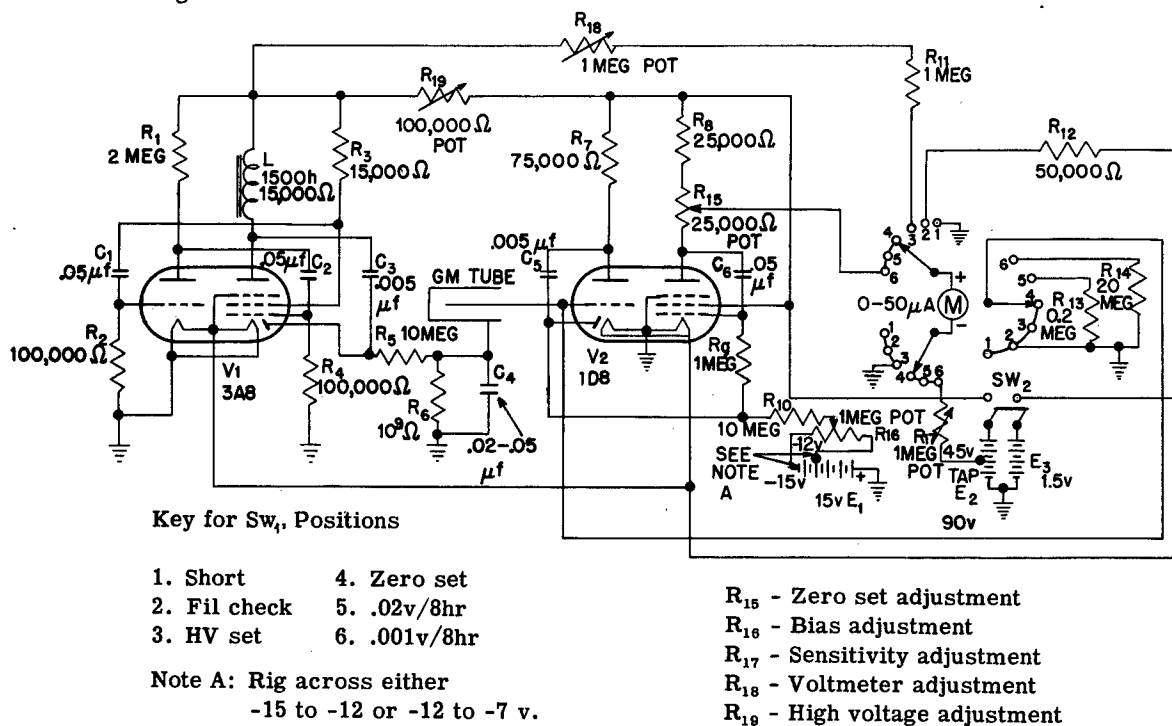
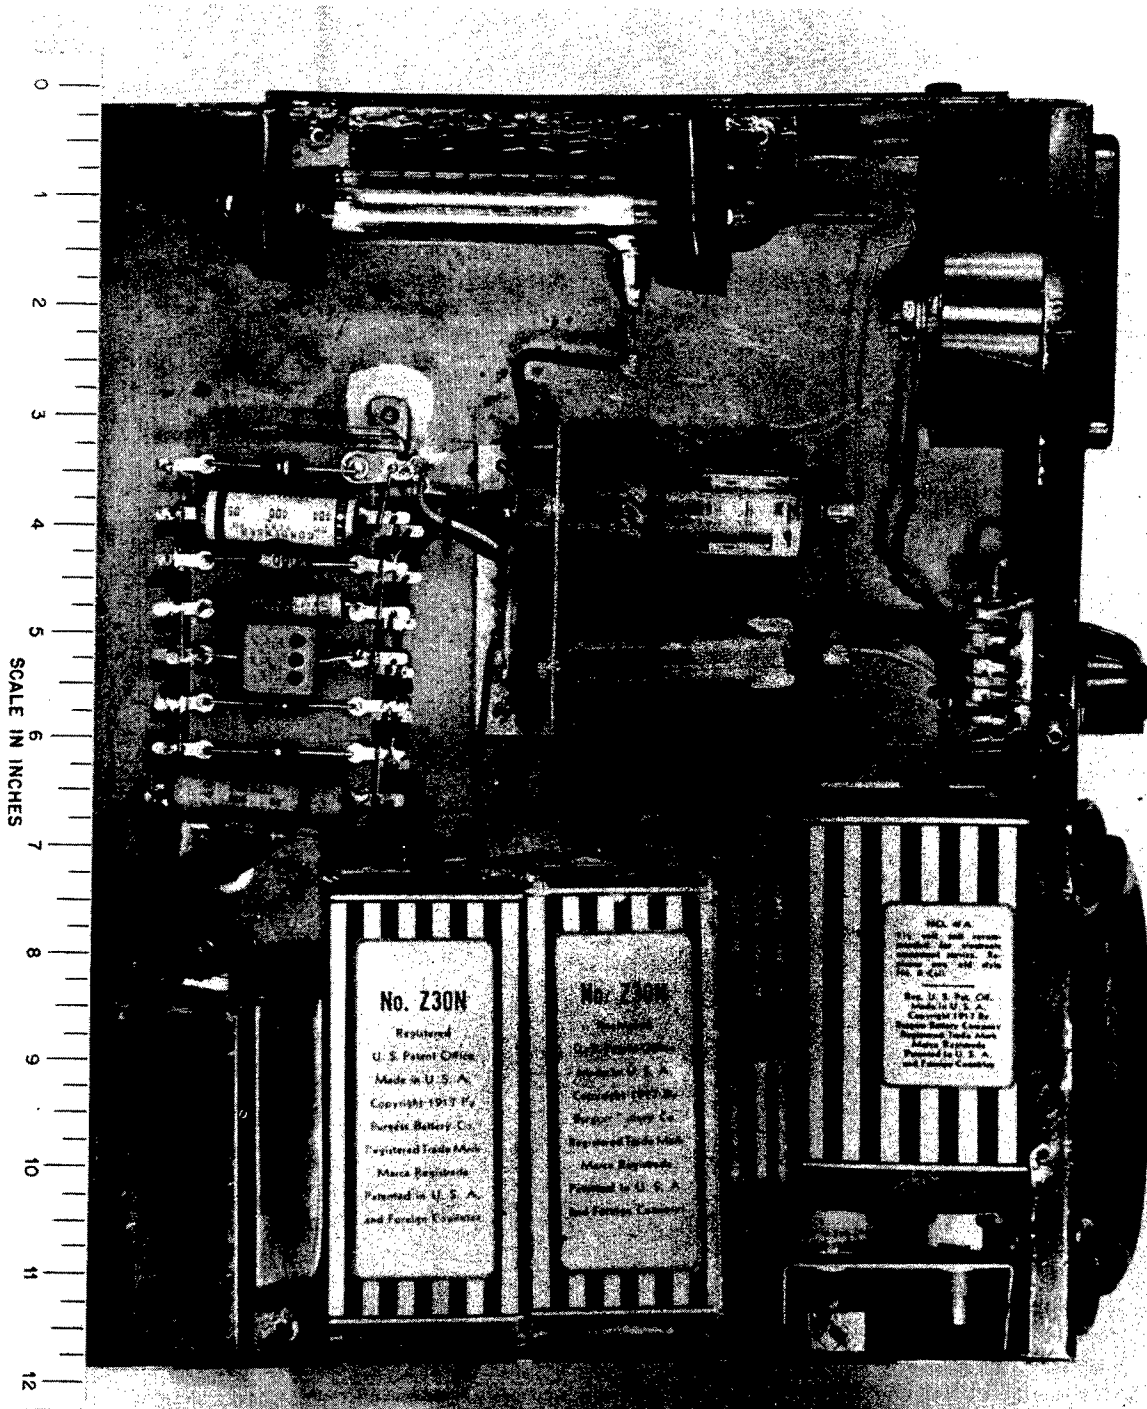
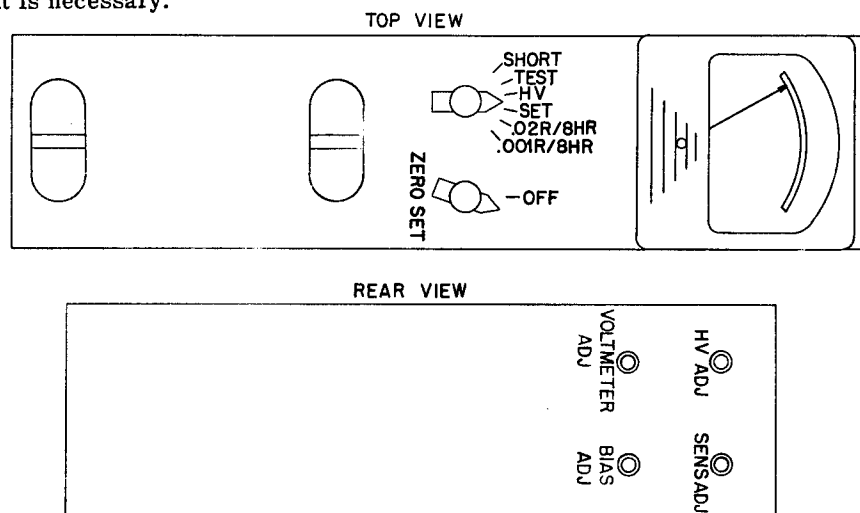

Figure 1. Schematic diagram of portable GM tube survey meter.
Figure 2. Inside view of portable GM tube survey meter.
Figure 3. Diagram showing location and position of labels for portable GM tube survey meter.
The following report gives an explanation of the electrical operation of the Portable GM Tube Survey Meter. Also included is a schematic diagram (Figure 1), photograph (Figure 2), diagram showing location and position of labels (Figure 3) and parts list. The development of the Portable GM Tube Survey Meter is due largely to the work of W. H. Hinch.
To set R_{16} , the Bias Adjustment, put the selector switch on position 4 and turn the zero set adjustment, R_{15} , clockwise about two-thirds of its total movement. R_{16} can be connected across either -15 v to -12 v , or -12 v to $-7\frac{1}{2} \text{ v}$, whichever gives the proper setting just described (See also Note A on schematic diagram — Figure 1).
1. The electrical circuit must follow exactly that of the schematic diagram (Figure 1).
2. The physical layout must be approximately as shown in the photograph (Figure 2).
3. The labeling for the selector switch, zero set adjustment, bias adjustment, sensitivity adjustment, voltmeter adjustment, and high voltage adjustment is to be as indicated on the included drawing which shows the location and position of the labels (Figure 3).